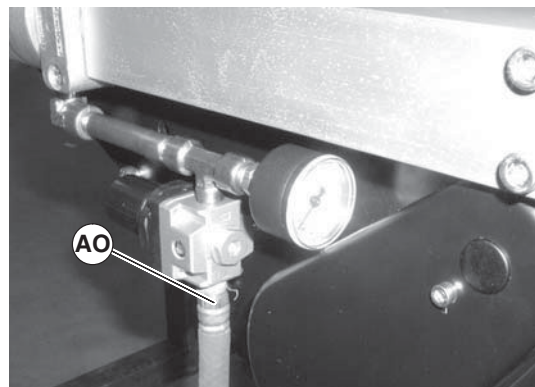

Figure 60
- Remove air supply and remove hose (Figure 60, item AO) from center drive.